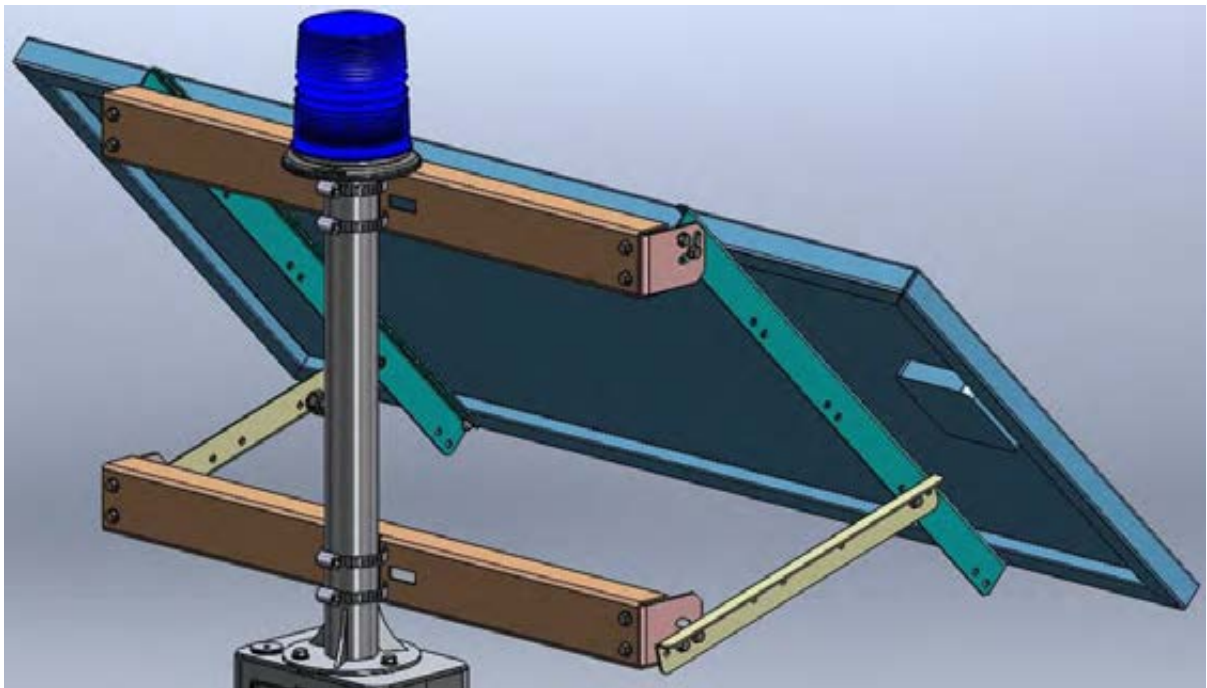

Figure 24. Assembled view of **SLR-120-84** (shown on **ETP-MTE-WP**)
16. Once the adjustments are complete, tighten all 5/16" hardware to **12 ft-lbs** as shown in **Figure 24**.